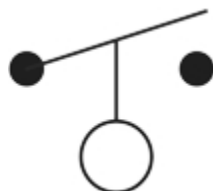

*Figure 11 SPST
- Figure 11 Circuit setter with PT plugs by ITA is licensed under a CC BY-NC-SA licence.
- Figure 11 SPST close on rise by ITA is licensed under a CC BY-NC-SA licence.